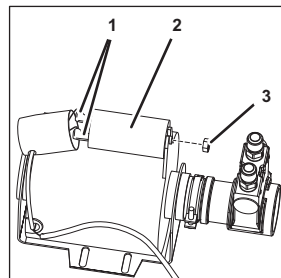

Figure 126
2. Disconnect the plugs (Figure 126/1) of the run capacitor (Figure 126/2).
3. Remove the fastening nut (Figure 126/3) from the run capacitor (Figure 126/2).
4. Remove the run capacitor (Figure 126/2).
5. Position the new run capacitor (Figure 126/2) within the unit.
6. Attach the run capacitor (Figure 126/2) using the fastening nut (Figure 126/3).